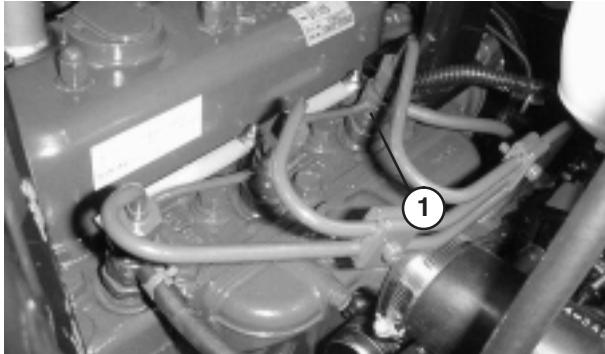

Figure 50
1. Loosen the pipe connection to the No. 1 injector nozzle and holder assembly at injection pump (Fig. 50).